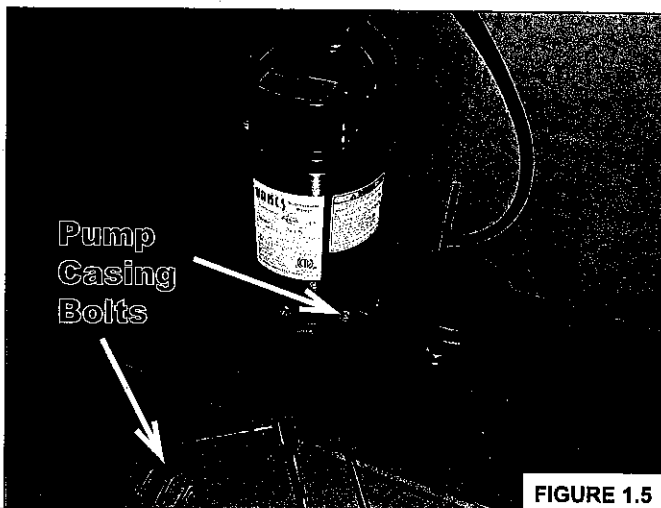

FIGURE 1.5
1. Remove the casing bolts, and then remove the pump casing. (Figure 1.5)